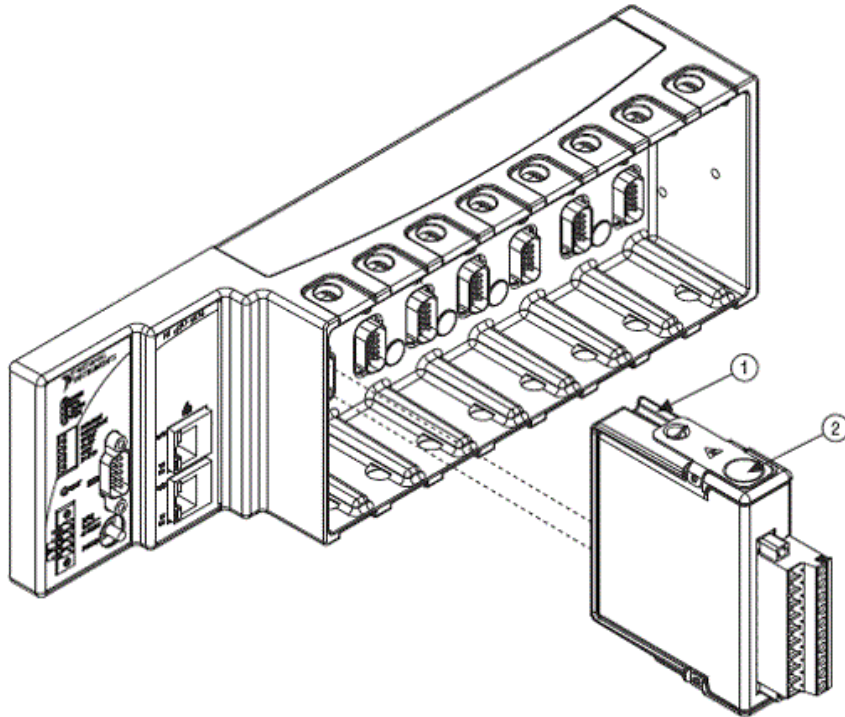

Figure 1 – Installing Module
2. Align the module with an I/O module slot in the chassis as shown in Figure 1. The module slots are labeled 1 to 8, left to right.